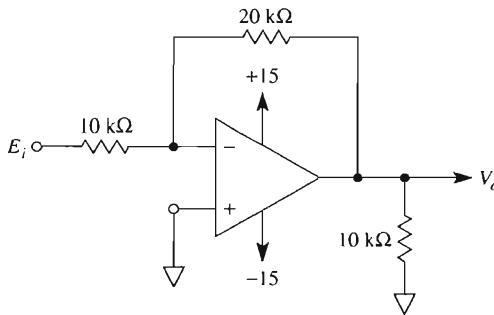

FIGURE P3-4
- 3-4. Identify the circuit in Fig. P3-4.
- 3-5. Calculate V_o and the op amp's output current in Fig. P3-4 if E_i equals (a) +5 V; (b) -2 V. For each situation, state if the op amp sources or sinks current.
- 3-6. Calculate E_i in Fig. P3-4 if V_o equals (a) +5 V; (b) -2 V.
- 3-7. Let E_i be a triangle wave with a frequency of 100 Hz and a peak value of 5 V in Fig. P3-4. (a) Plot E_i and V_o vs. time; (b) V_o vs. E_i .